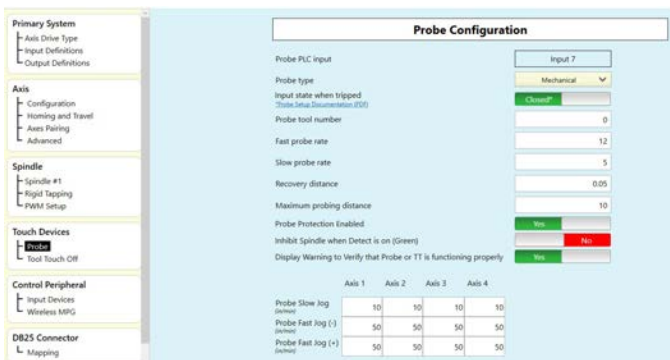

FIGURE 34
B. Click on Probe and input the values shown below (see Figure 34).